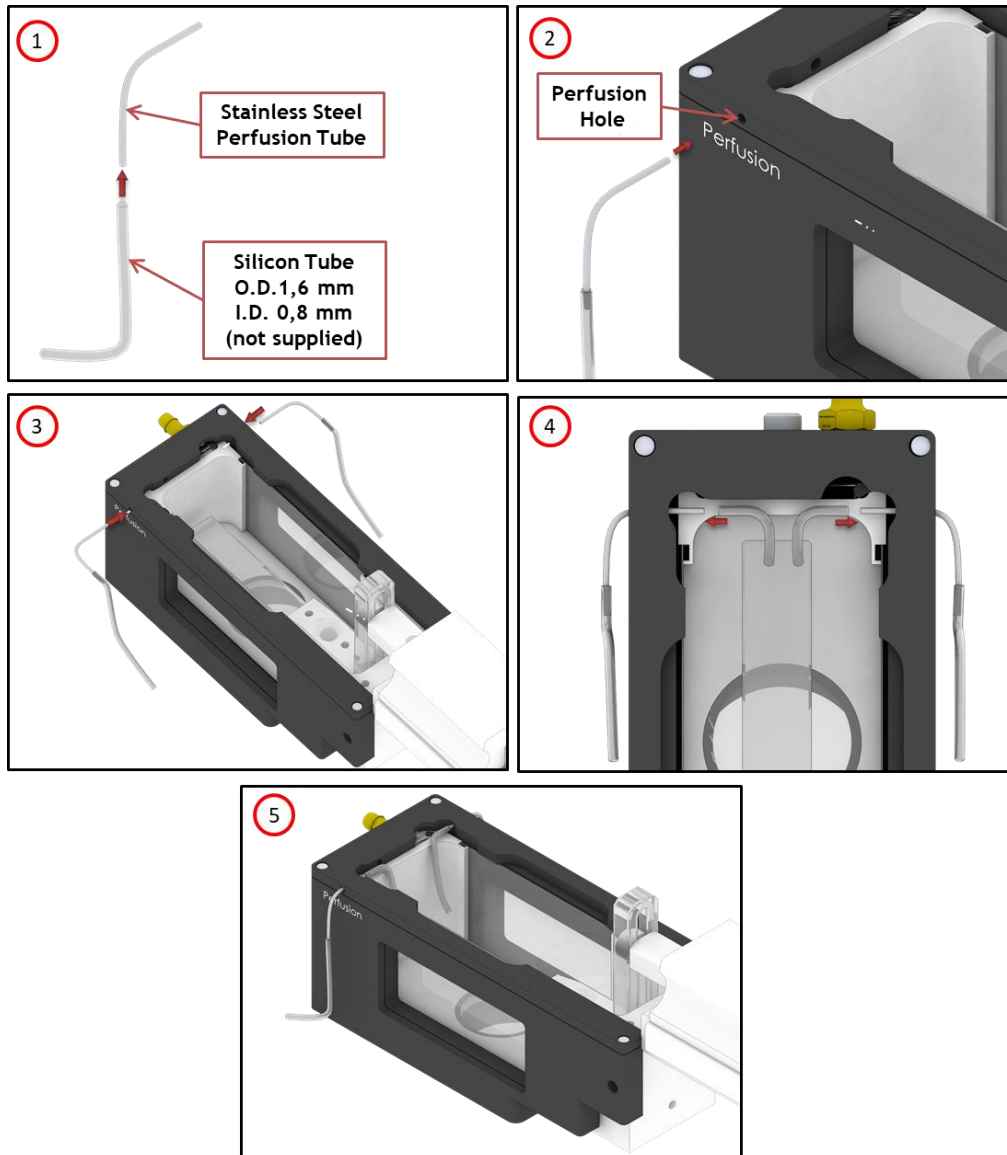

Figure 4. Working with Perfusion
1. Use the supplied Stainless Steel Perfusion Tubes. Attach a Silicon tubes O.D. 1,6mm I.D. 0,8mm (not supplied) to the Stainless Steel Perfusion Tubes (see image 1 in Figure 4).
2. Insert the Stainless Steel Perfusion Tubes in the perfusion holes (see images 2 and 3 in Figure 4).
Insert a Silicon tubes O.D. 1,6mm I.D. 0,8mm (not supplied) to the free end of the Stainless Steel Perfusion Tubes (see image 4 and 5 in Figure 4).